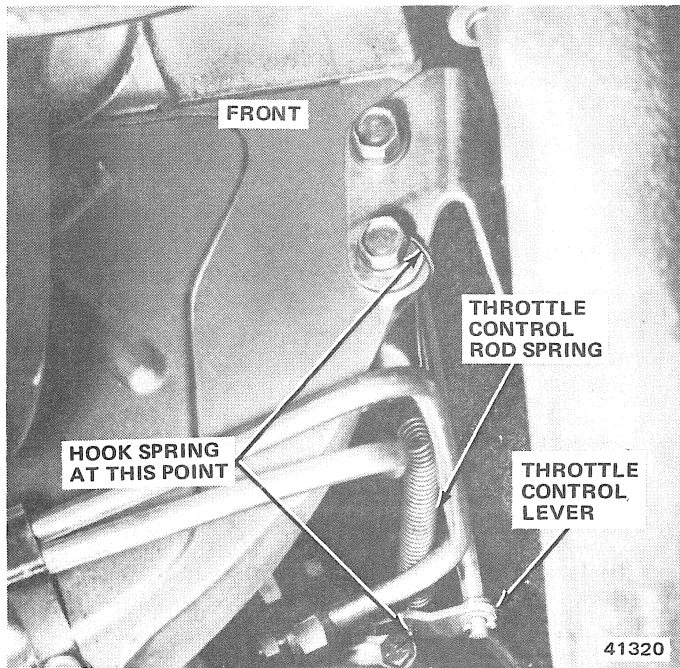

Fig. 2C-31 Installing Throttle Control Lever Spring
(6) Pull on end of link to eliminate lash and tighten link retaining bolt (fig. 2C-32).
(7) Remove throttle control rod spring from linkage and install it on control rod.
(8) Lower vehicle.